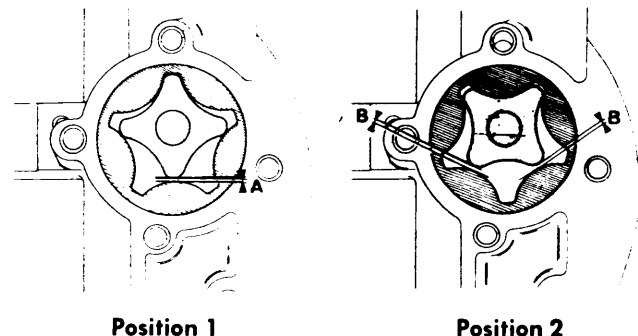

Fig. 13 Measurement Points for Oil Pump Rotor Clearance
3) Measure tip clearance in both positions shown in Fig. 13. Clearance in "POSITION 1" must be .002-.012" (.05-.30 mm) and .001-.006" (.03-.15 mm) in "POSITION 2". If either tolerance is exceeded, rotors must be changed.